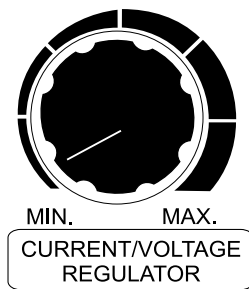

Figure 33. Current/Voltage Regulator Control Knob (Current Adjust)
- Next, set the current/voltage regulator control knob (Figure 33) in accordance with the selected electrode size as referenced in Table 16.